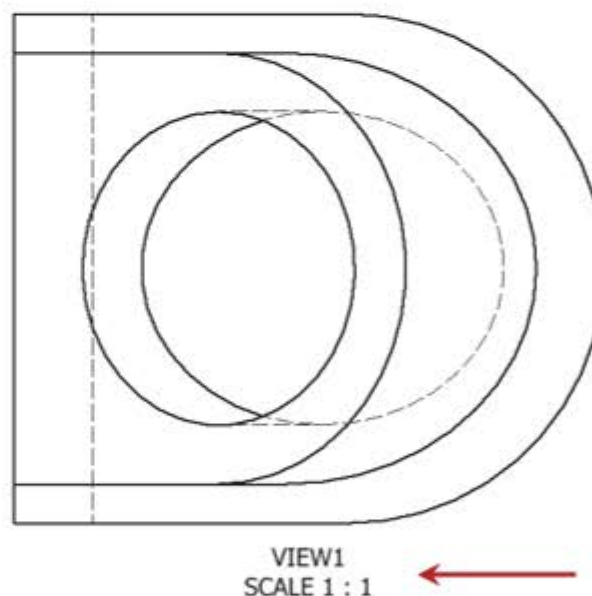

Figure 25–61
7. When inserting a Base view into a drawing file, what is required to display a view name, similar to that shown in Figure 25–61?